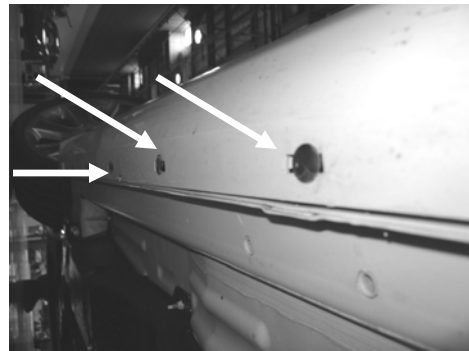

Figure 1
1. Remove 8 Christmas trees (push screws) under rocker panel; keep all these for installation of the new rocker panels. (three of the push screws are indicated in **Figure 1**)